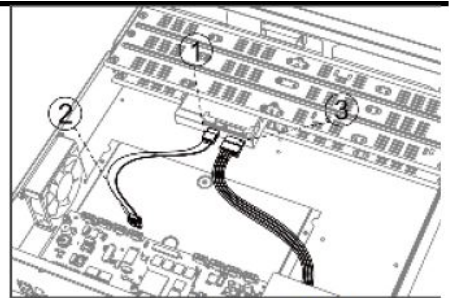

Figure 2-6 Connect Cable
STEP 3 Connect the data cable and power cable. Refer to Figure 2-6.